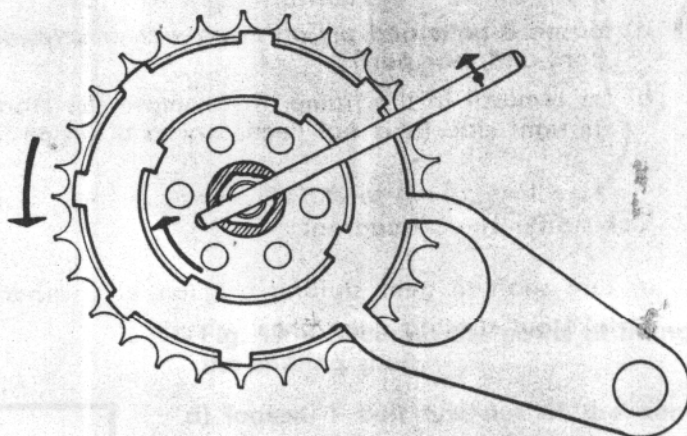

Fig. 16 – Holding of the clutch drum
d) lock inner driver in position against turning with the aid of fixture No. 12 (fig. 16) and unscrew nut